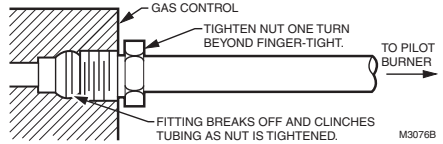

Fig. 4. Always use new compression fitting.
- Unscrew brass compression fitting from pilot gas outlet. Refer to Fig. 4. Slip fitting over tubing and slide out of way.
NOTE: When replacing a control, cut off old compression fitting and replace with new compression fitting provided on new combination gas control. Never use old compression fitting as it may not provide a gas-tight seal. Refer to Fig. 4.